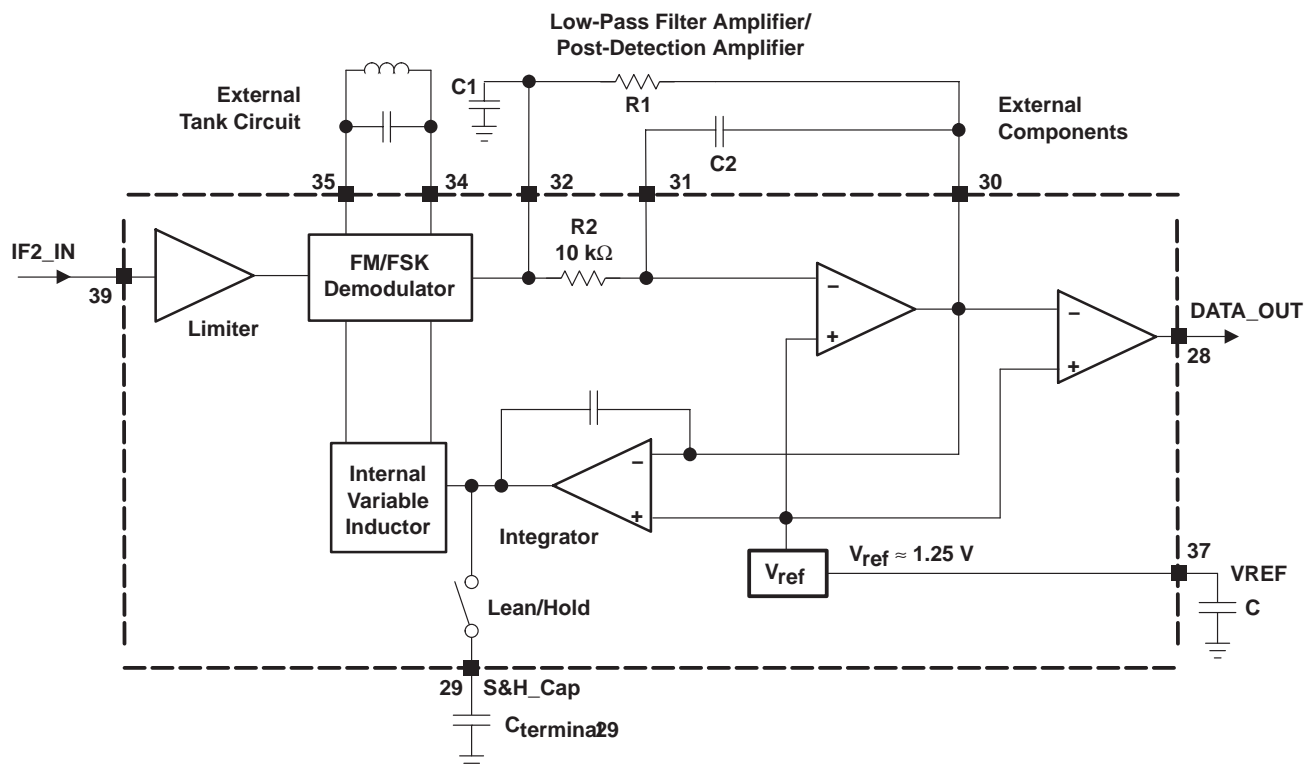

Figure 13. AFC Loop to Control the Data Slicer Decision Threshold
The demodulator is intended for analog (FM) and digital (FSK) frequency demodulation. It consists of a quadrature demodulator with an external LC tank circuit. A variable inductor, internal to the TRF6900A, operates in parallel with the external tank circuit (see Figure 13), and is used to adjust the external tank circuit's resonant frequency. If the tolerances of the external demodulator tank circuit components can provide a maximum frequency error of less than 5%, then no additional adjustments are required. As long as the device is in the *learning mode*, the internal reactance automatically fine-adjusts the resonant frequency of the external LC tank circuit. Depending on the supply voltage, the tank circuit tuning range is approximately four times the discriminator 3-dB bandwidth.
The data slicer is fundamentally a comparator. The data slicer provides binary logic level signals, derived from the demodulated and low-pass filtered IF signal, that are able to drive external CMOS compatible inputs. The noninverting input is directly connected to the internal reference voltage, Vref, and the inverting input is driven by the output of the low-pass filter amplifier/post-detection amplifier. The decision threshold of the data slicer is determined by the internal reference voltage, Vref. The automatic frequency control (AFC) loop scheme for the TRF6900A is shown in Figure 13.